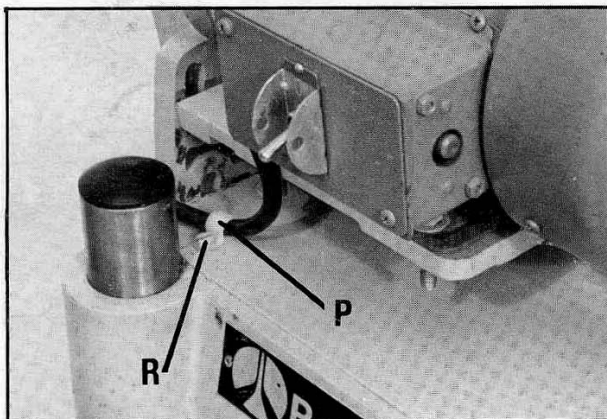

Fig. 16A
9. The motor cord should be placed through the clamp (P) and the clamp (P) should be fastened to the threaded hole located on the left front top of machine using screw (R), as shown in Fig. 16A.